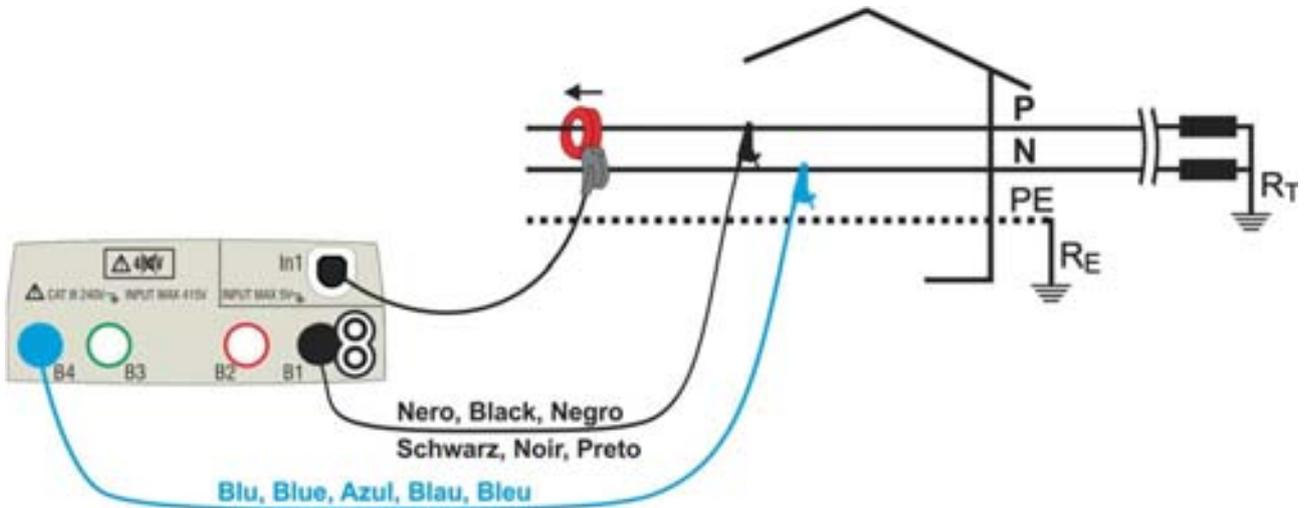
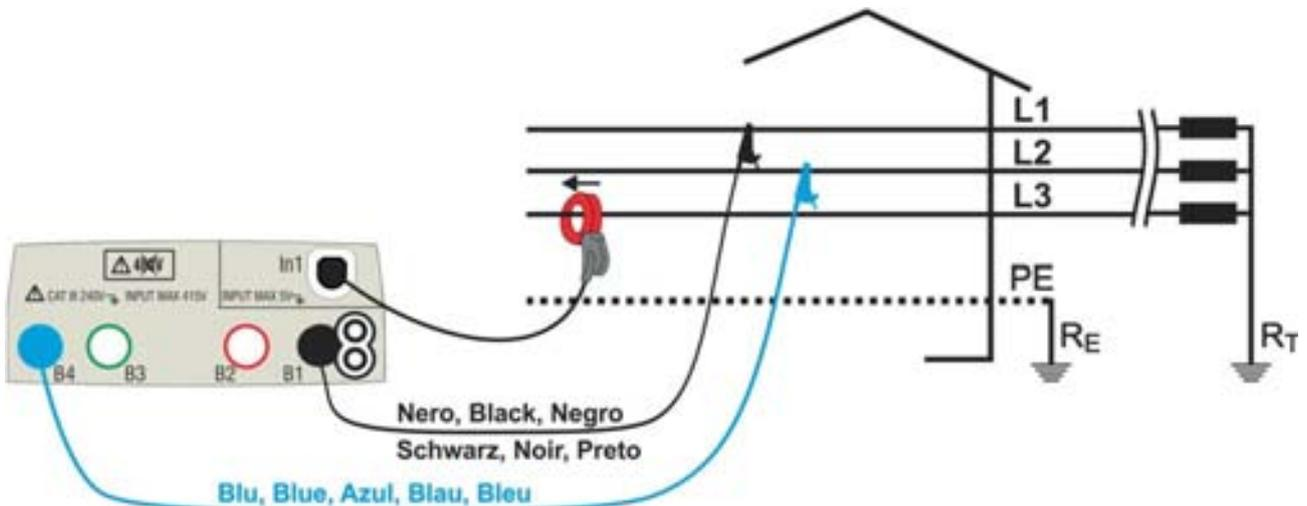

Fig. 36: Connection for measurement on Single phase installations
Fig. 37: Connection for measurement on Three phase balanced installations
4. Insert the blue and black connectors into the corresponding B4 and B1 input terminals of the instrument. Insert the remaining free end of the cables in the corresponding crocodiles or tips. Connect crocodiles or test leads to the phase P and N according to Fig. 36 for the measurement of the voltage in Single phase plant or at L1 and L2 phase according to Fig. 37 for the measurement of voltage in a Three phase balanced plant. Connect the clamp to **In1** input of the instrument and to the phase conductor for Single phase or to the L3 phase for Three phase balanced systems. The arrow on the clamp must follow the direction in which the current normally flows from the generator to the load, as shown in Fig. 36 and Fig. 37